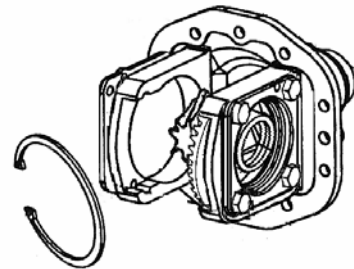

Fig.6-15
- 6) Remove the clamping bolts from both diff-metals( RH and LH) and pull the metals out with push bolts.assuring parallelism of the ring gear and bearing(Fig.6-15)
- 9) Remove the snap ring and the bevel pinion can then be removed together with the TRB's (Fig.6-15)